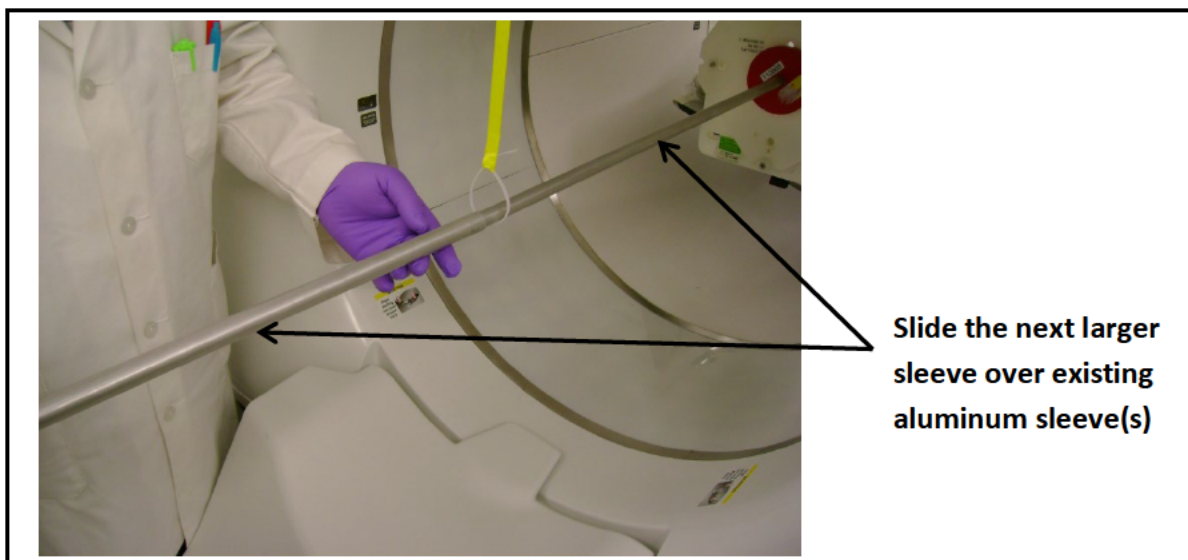

Figure 3.8: Add the Next Larger Diameter Aluminum Sleeve between Scans.
28. Refer to Figure 3.8. Upon completion of the first scan, slide the next larger sized sleeve over the existing aluminum sleeve and line source.